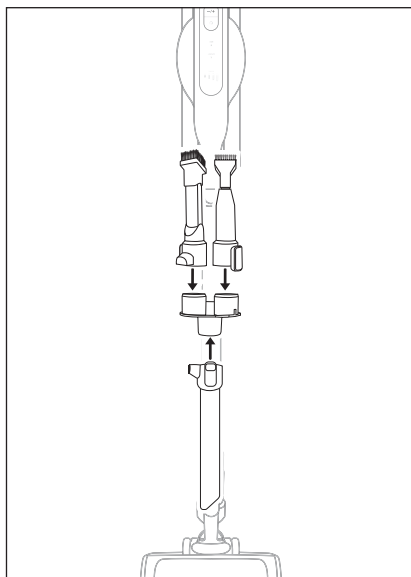

Fig. 20
- ◆ Remove accessories from the appliance and place them on the accessories holder **17** for storage (see Fig. 20).